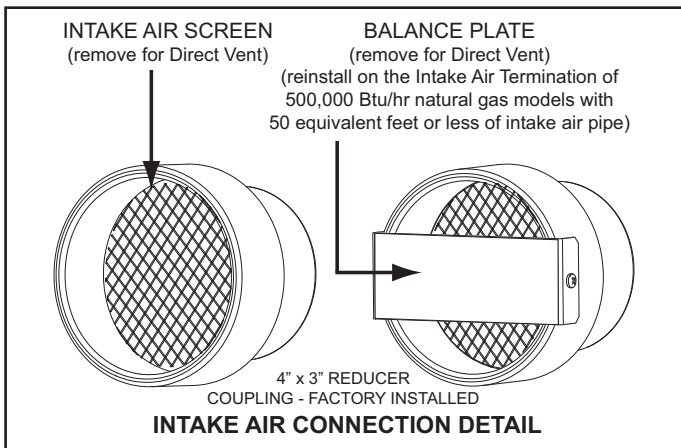

Figure 17
- Ensure the Balance Plate and Intake Air Screen on the Intake Air Connection are both removed before connecting the intake air pipe to the water heater, see Figure 17.
- SUF 130 500 NATURAL GAS MODELS ONLY: install the balance plate (removed in the previous step) on the Intake Air Termination if the installed equivalent length of the intake air pipe will be 50 feet or less. Discard the balance plate for all other models or if the installed equivalent length of the intake air pipe will be more than 50 feet. See Figure 17.